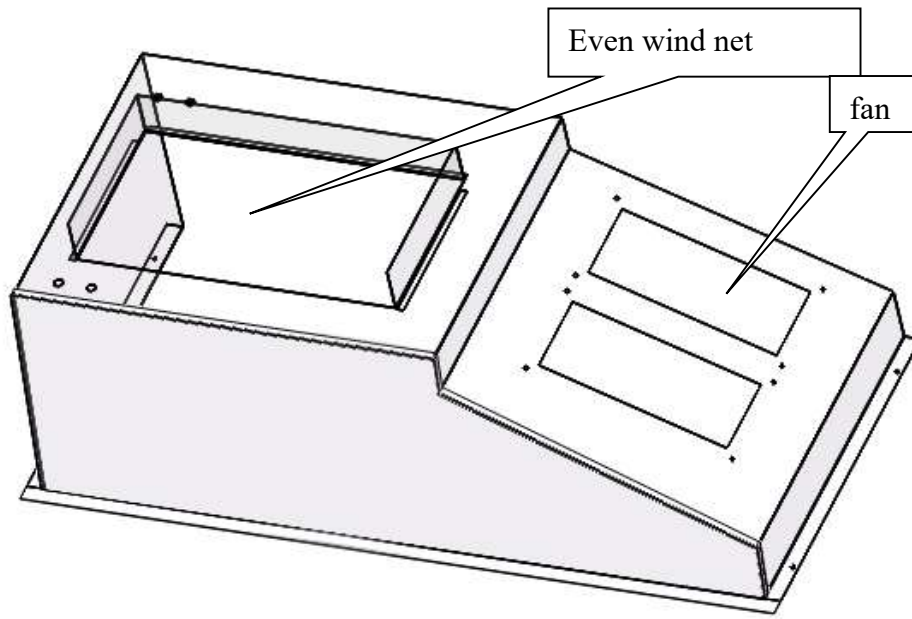

Figure 63
k) BSC-1100 II A2-Pro biological safety cabinet fan replacement: the fan be removed from the safety cabinet, and then in accordance with the following chart fan location, remove the even wind net, remove the fan, replace the same model fan, the disassembled parts can be reinstalled to the equipment, see Figure 63, (note that when connect the fan, refer to wiring schematic diagram and fan wiring diagram).